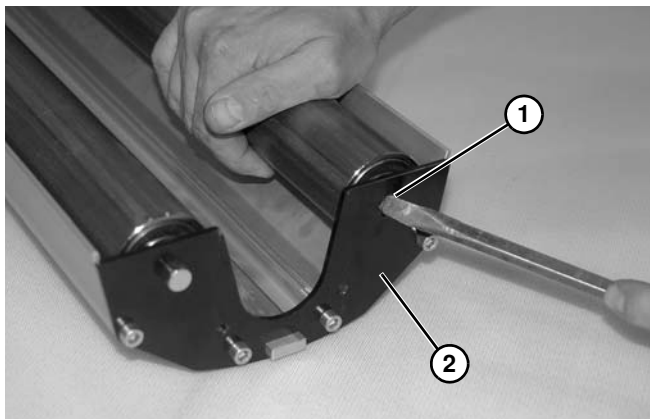
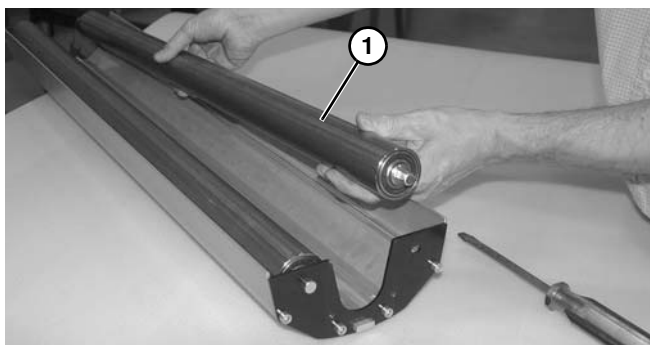

Figure 92
Figure 93
8. On mid drive module, use a heavy-duty screwdriver to push in pin (**Figure 92, item 1**) to release end of spindle from bracket (**Figure 92, item 2**). Remove and replace each spindle (**Figure 93, item 1**).